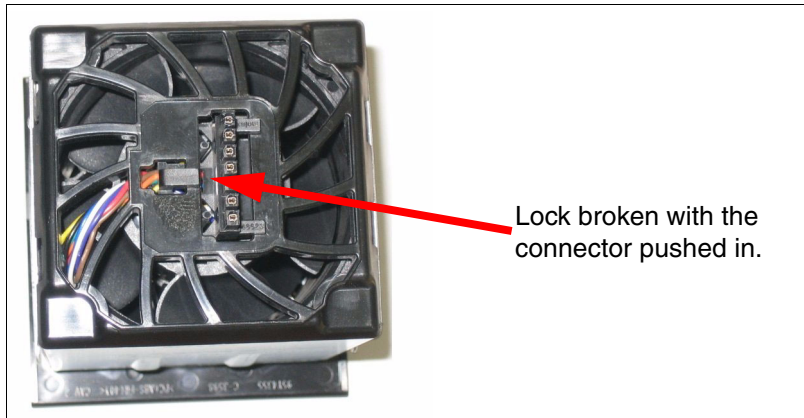

Figure 27 Fan unit with broken lock mechanism
- Check the other fan on the same CPU book. The power connector might be broken or pushed in the housing, as shown in Figure 27.